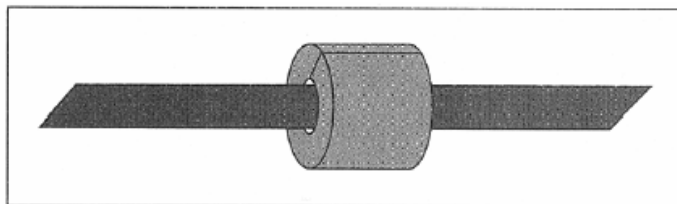

Figure 1
1. Place the split grommet around the GutterMelt[®] heating cable where the downspout hanger will be placed. See Figure 1.